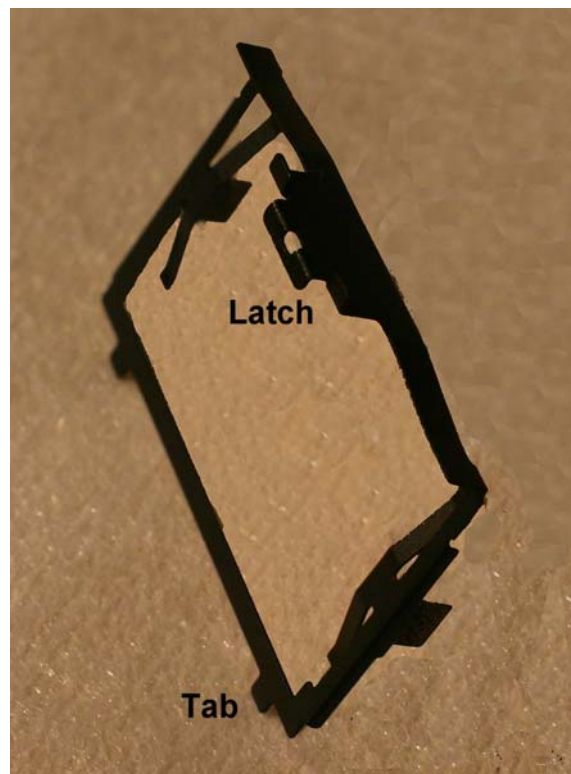

Figure 3. Focusing screen retaining frame
16. Remove the focusing screen retaining frame. Figure 3 shows the frame. The small hole in the latch is intended to be engaged by a tool to release the latch (we will use the round toothpick). The bow-shaped spring fingers are what actually press on the focusing screen to hold it in place.